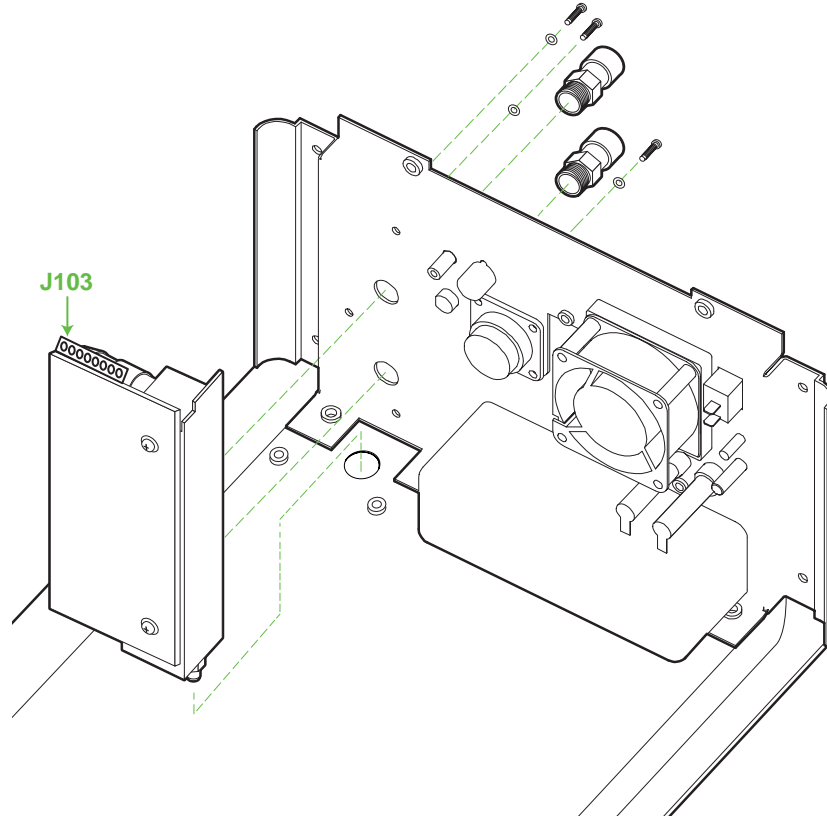

Figure 5-15. Blender Assembly
5. Referring to Figure 5-15, remove the pair of O₂ DISS fittings from the rear of the ventilator. Take precaution not to lose springs within the fittings.
6. Remove the two (2) screws from the rear of the ventilator that secure the blender to the chassis.